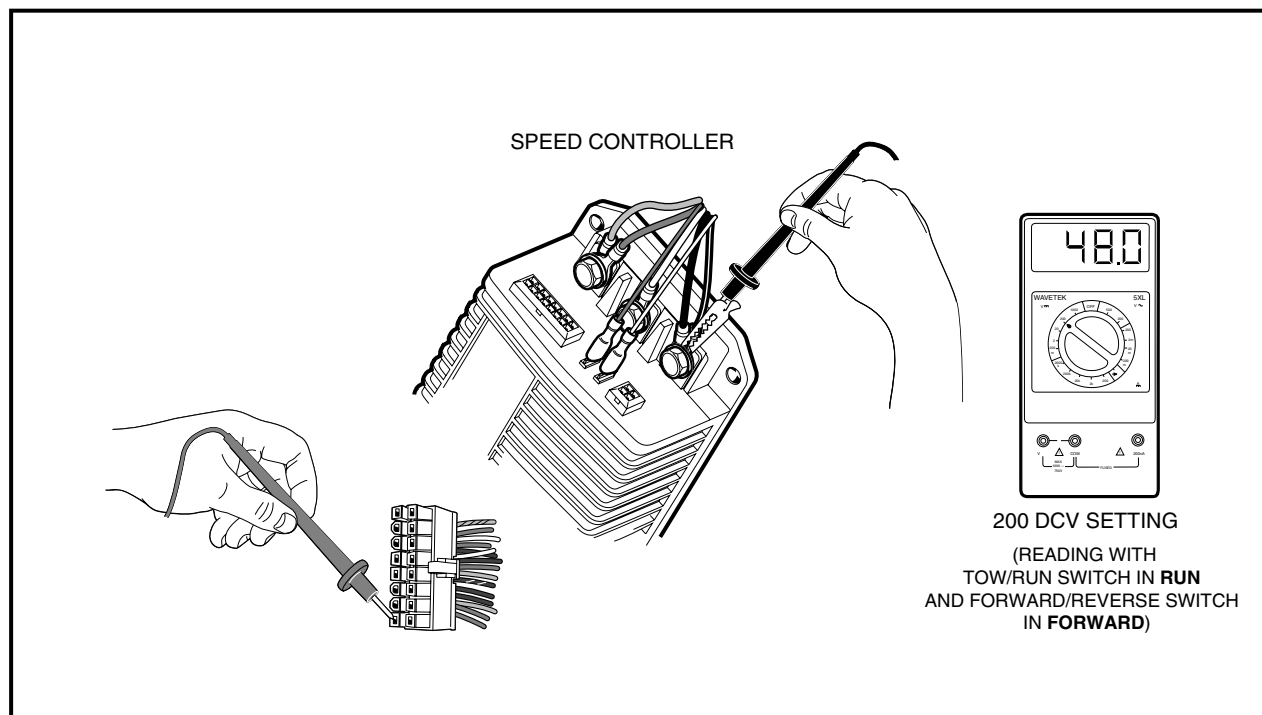

Figure 11-15 Pins 8 and 16 Test
4. Using a multimeter set for 200 volts DC, insert the red (+) probe of the multimeter into pin 8 (white wire) of the 16-pin connector. **See following CAUTION.** Using an alligator clip, connect the black (–) probe to the B– terminal of the speed controller (**Figure 11-15, Page 11-33**).